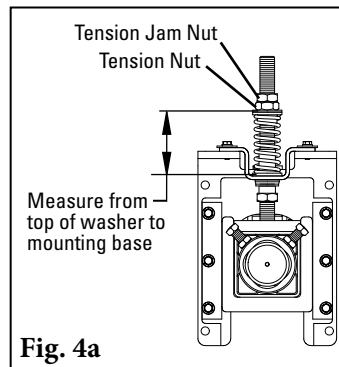
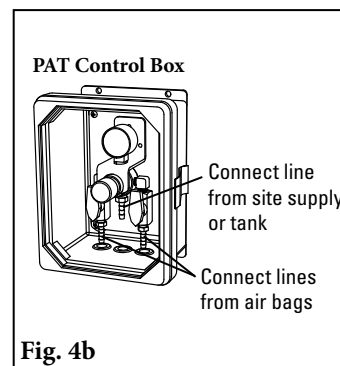

Fig. 4a
Fig. 4b
4a. **Spring Tensioner:** Loosen the top tension jam nuts on both sides. Turn the tension nuts until the correct spring compression is reached (Fig. 4a). Spring compression is determined by spring length. See the chart at right for the correct spring length for your belt width.
4b. **Air Tensioner:** With the parts supplied, attach a line to each air bag and run the lines to the outlet side of the control box (Fig. 4b). **NOTE:** Be sure lines are safely away from the belt. Connect the line from the inlet side of the box to the site's supply or air tank. Test the connections for leaks and set the pressure per the chart at right. Pressure may be reduced to suit application. See the chart at right for the correct air pressure for your belt width.
5. **Reassemble the SAT XD Tensioner.** Remove three screws from air bag support plate (Fig. 4a). Turn the threaded insert into the support plate. Also turn part of the threaded insert into the hole on pole mount. (Fig. 4b). Ensure 1/4" (6mm) of threaded insert is still exposed, then turn the air bag onto the threaded insert and tighten (Fig. 5).